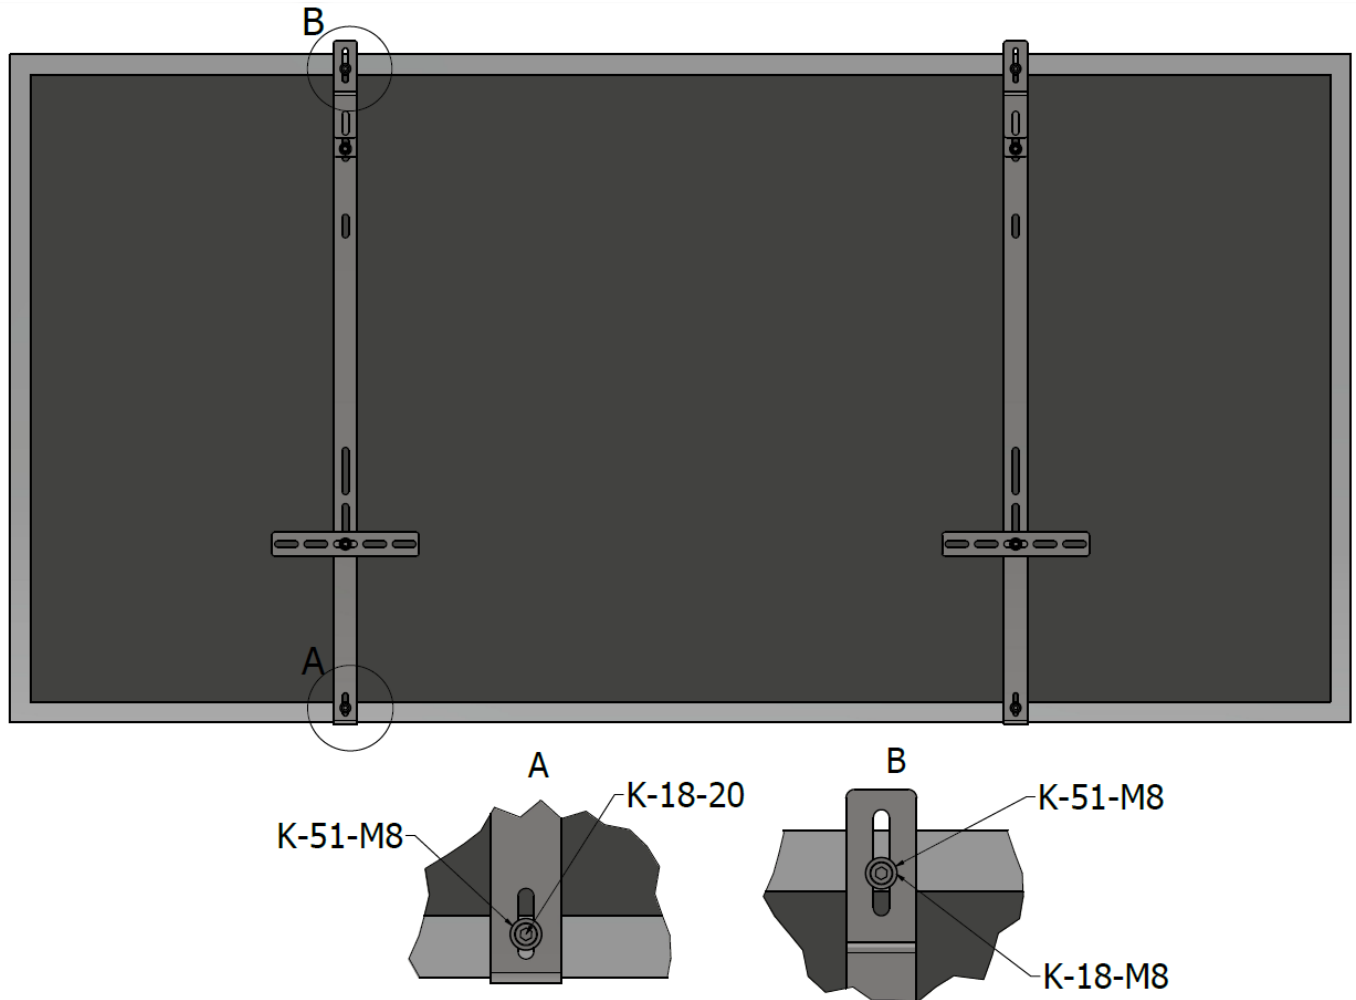
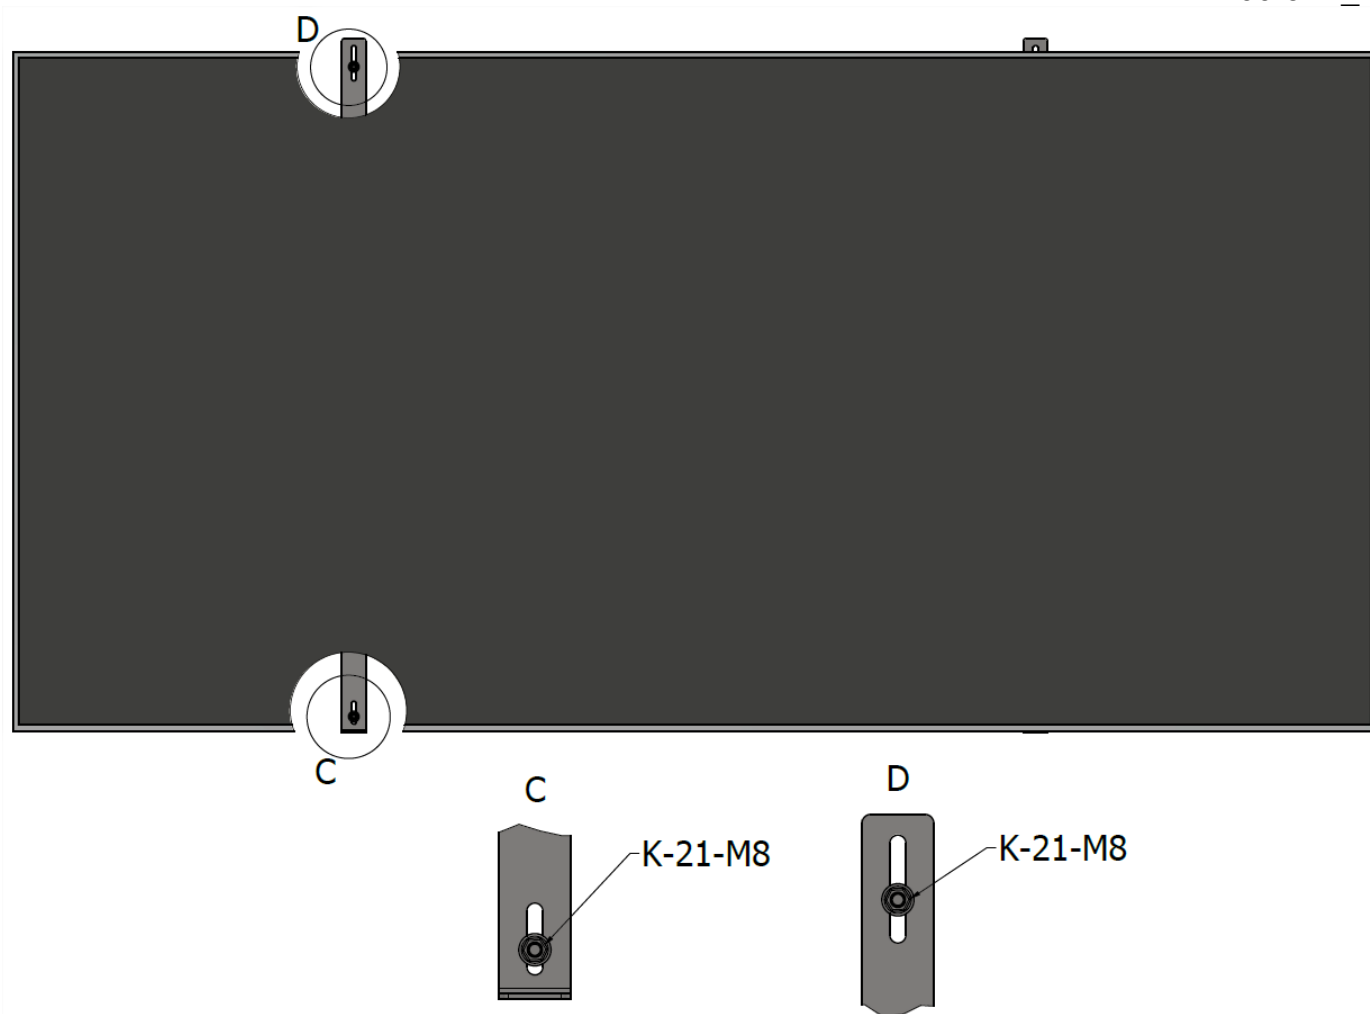

FIG.5 Installation of module (view I)
FIG.6 *Installation of module (view II)*
4. The next step is to bolt the module to the two pre-screwed hooks according to points 1 and 2. To do this, use four K-18-20 Allen screws, four K-51-M8 washers and four K-21-M8 nuts (FIG.5, FIG.6).